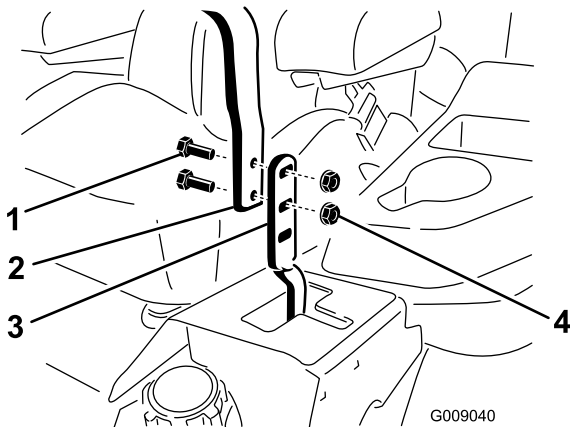

Figure 76
3. Loosen the bolts and flange nuts installed in the levers (Figure 76).